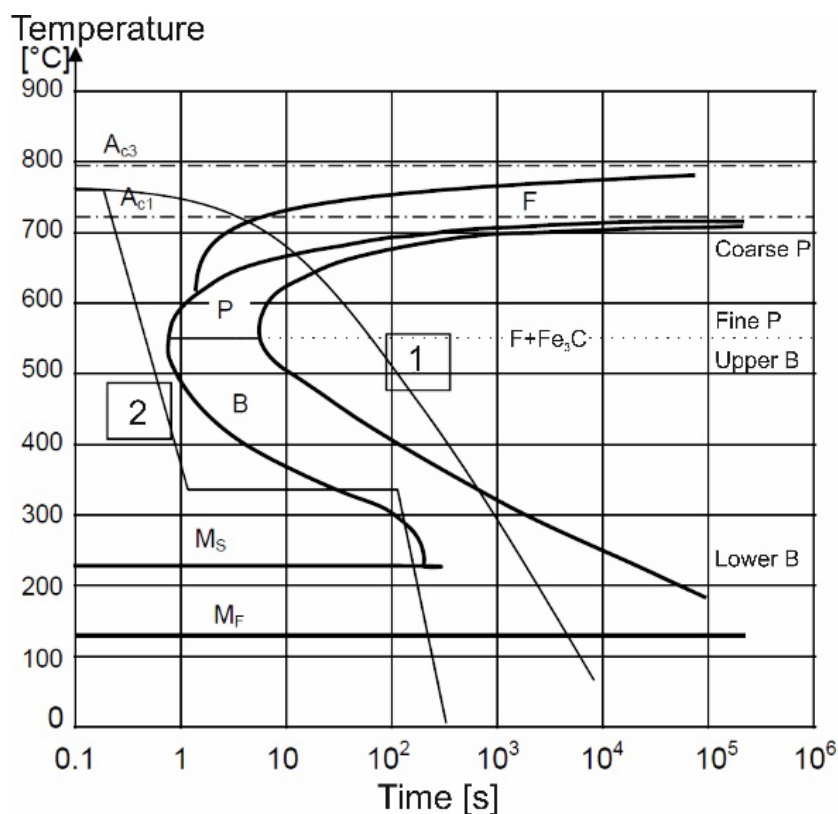

Figure 3: TTT diagram
Your next job is to decide for a heat treatment cycle for a batch of forged shafts ($l = 250 \text{ mm}$, $\varnothing 35 \text{ mm}$) made from a low alloyed 30NiCrMo12-6 steel. You know that you have to austenitize it first, followed by quenching in oil and subsequent tempering. Your colleague gives you the time-temperature-transformation (TTT) diagram for the steel, shown in Figure 3.
- From Figure 3, can we determine what phases form for the processing routes labeled 1 and 2? If so, try to estimate the final phase composition.